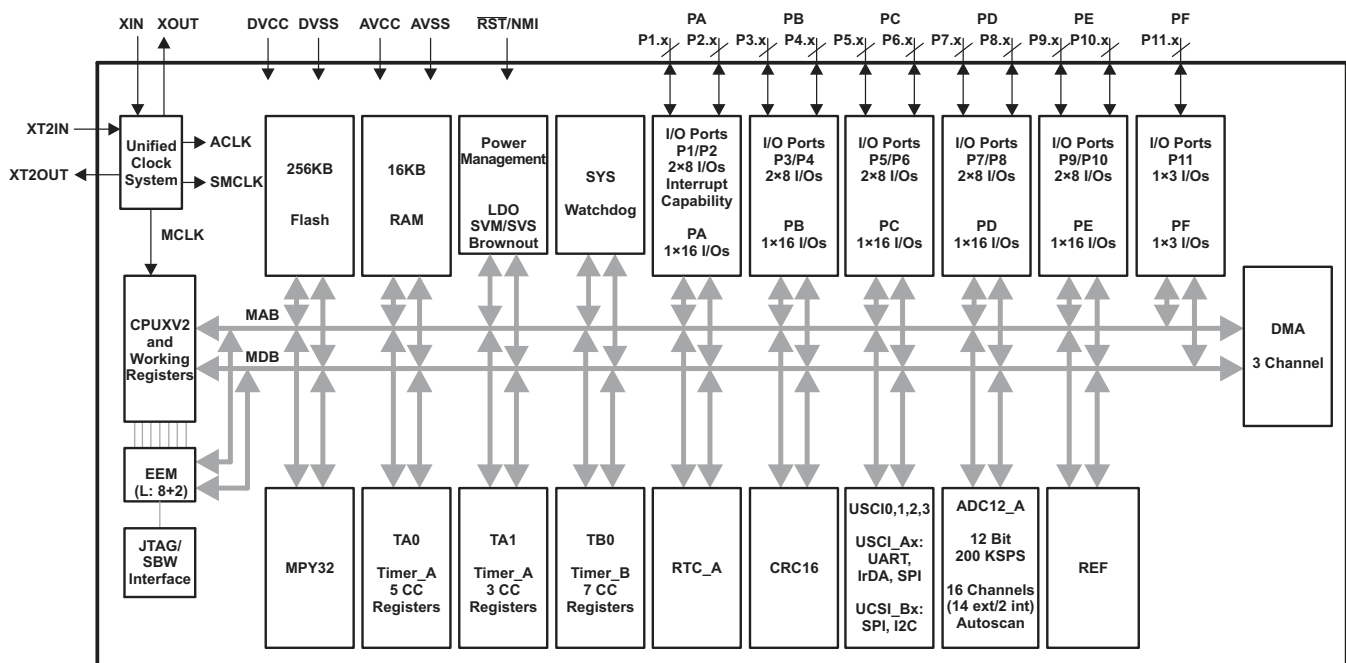

Figure 1-1. Functional Block Diagram
Figure 1-1 shows the functional block diagram.
• Moved functional block diagram to <a href="#">Figure 1-1</a> , Functional Block Diagram .....	<a href="#">2</a>